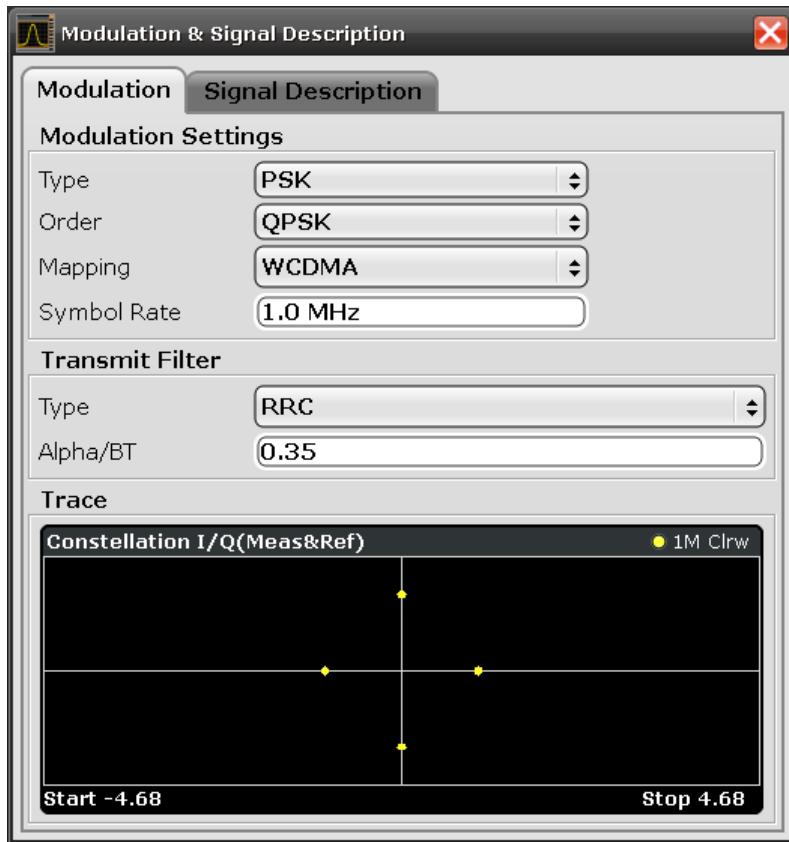

Fig. 8-3: QPSK signal with RRC transmit filter
- c) In the "Transmit Filter" section, select "RRC" as "Type" and enter the "Alpha/BT" value 0.35. In the preview area of the dialog you should then see a non-distorted QPSK constellation diagram, as shown in figure 8-3.